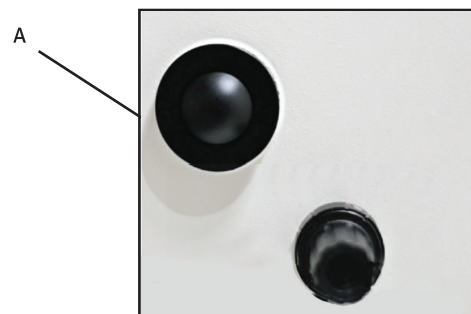

Fig. 31
Manually adjust the magnification using zoom control (A) on the micro scope. Refer fig 31